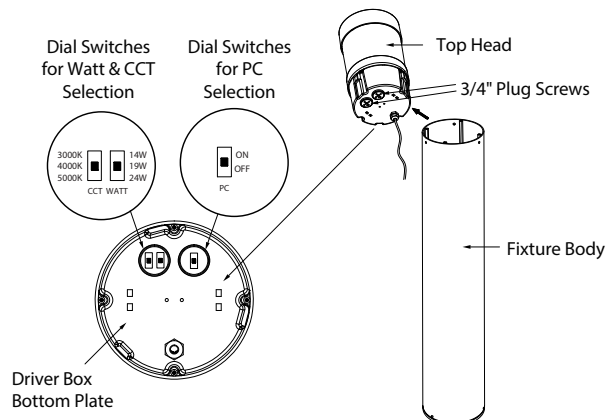

Fig 4
5. Remove the 2# 3/4" plug screws, and select desired wattage & CCT, select desired PC on/off, through the dial switches on the driver box bottom plate. **Fig. 4**